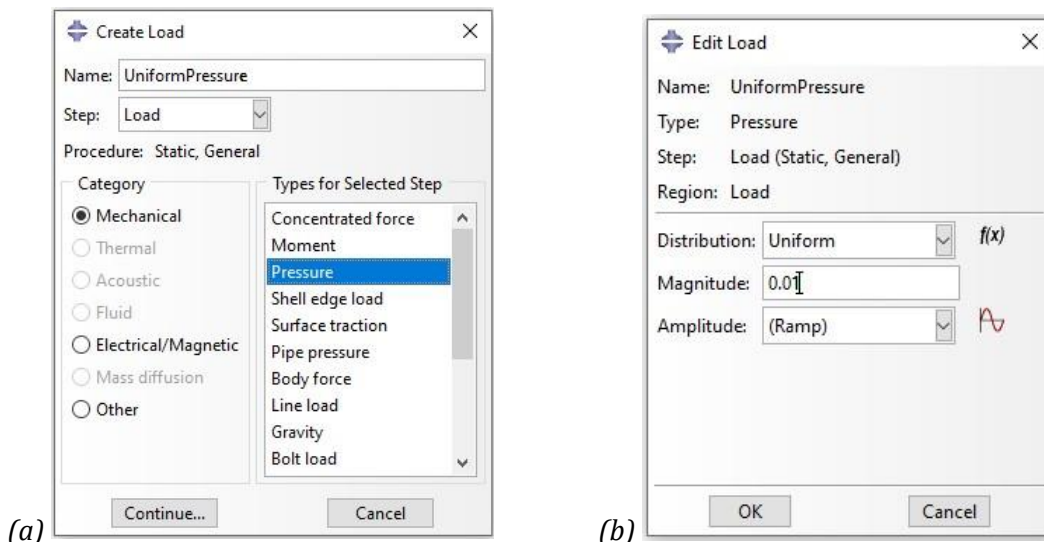

Figure 1-3 – (a) The Create Load dialog box and (b) The Edit Load dialog box.
3. In the **Edit Load** dialog box, see Figure 1-3(b)